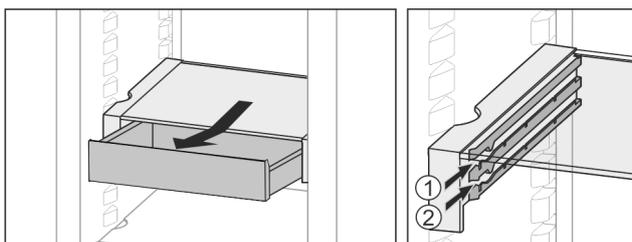

Fig. 38
- ▶ Slide back at the height you want Fig. 38 (1) or Fig. 38 (2).